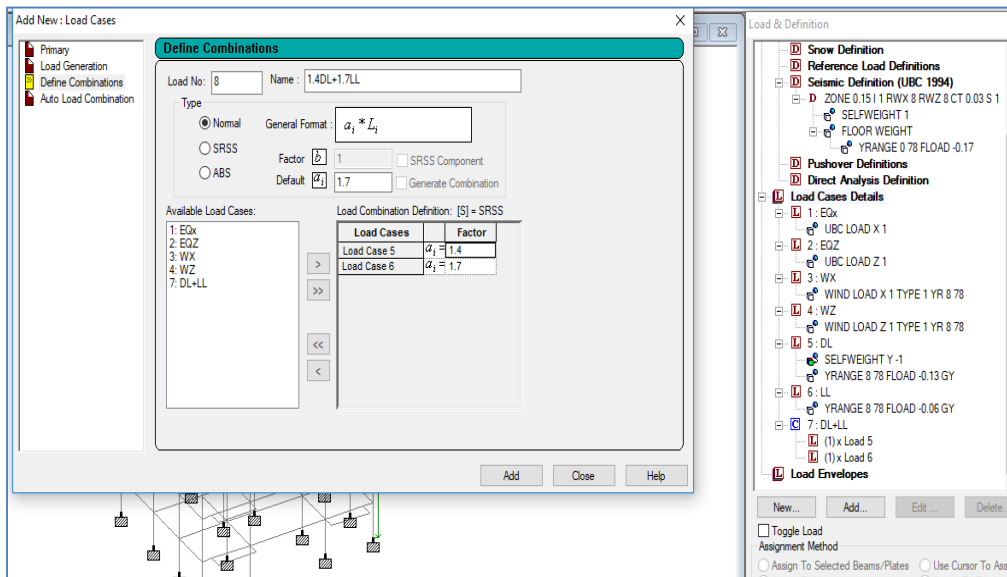

Fig: 5.21
2.5 Load Combinations: Load cases details →Add → Define Combinations →Name: DL+LL or other combinations as required then select the load name from the Available load cases and send from left to right side →Input necessary factors →Add→Close. (Fig: 5.21). Otherwise use the Auto Load Combinations according to ACI Code and Add.